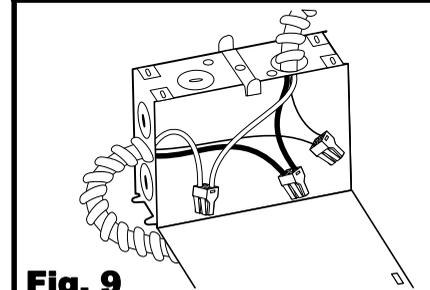

Fig. 9
4. Remove at least 3" of the cable's outer sheath and remove the plastic or paper over-wrap. Strip approximately 3/8" of insulation from the ends of all supply wires. Using the provided wire connectors, make the following wire connections within the junction box **[Fig. 9]**: